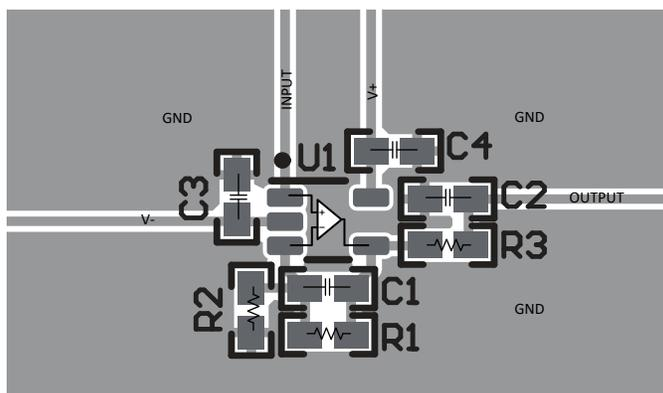

图 10-2. Operational Amplifier Board Layout for Noninverting Configuration - SC70 (DCK) Package
- Place the external components as close to the device as possible. As illustrated in 图 10-2, keeping RF and RG close to the inverting input minimizes parasitic capacitance.